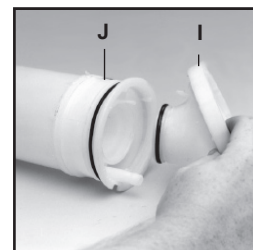

Figure 19
- 8) The pump housing (I) is separated from the pressure cylinder (J) by pulling it off. Figure 19. The O-ring can then be replaced.